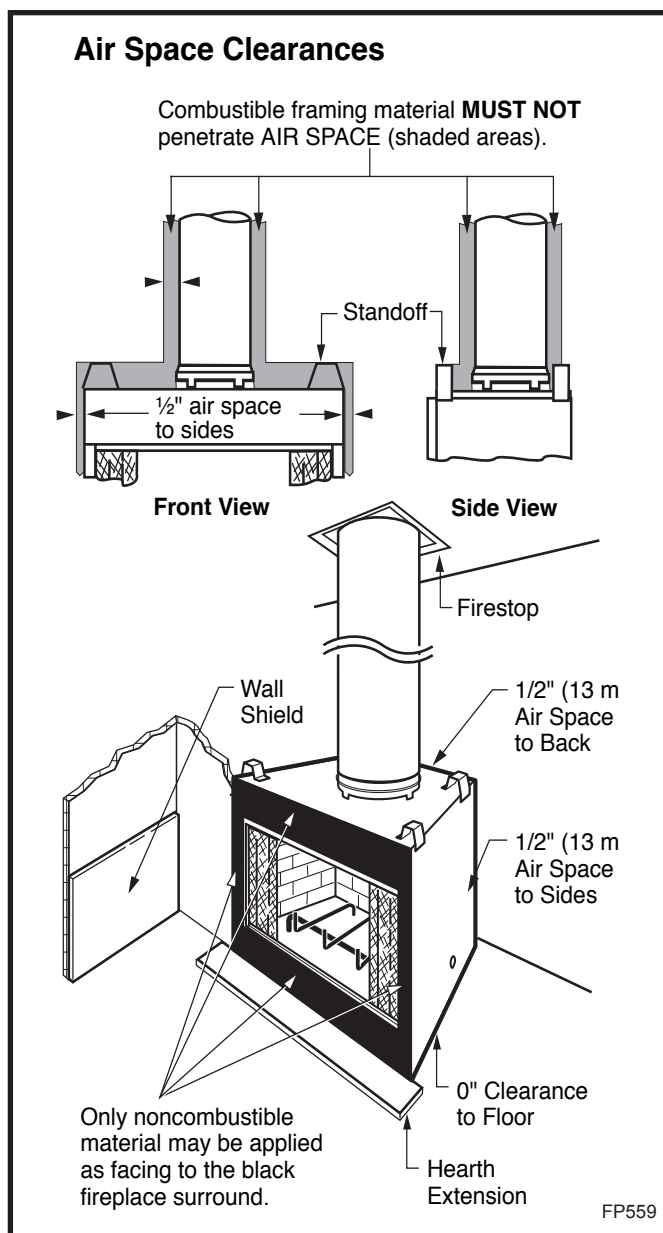
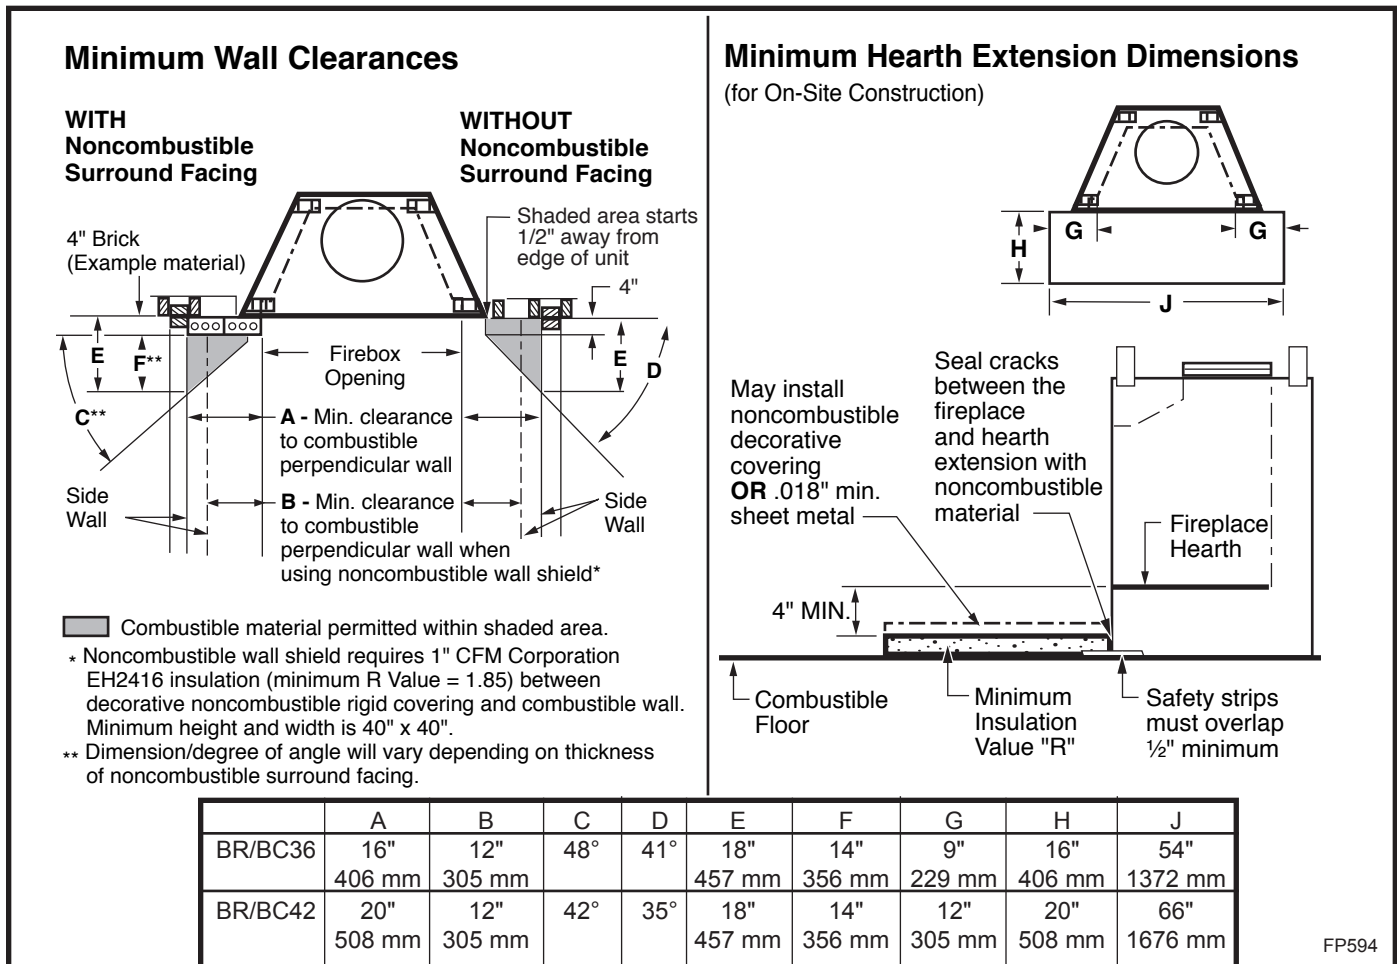

Fig. 20 Minimum clearances to combustibles.
Fig. 23 Combustible side wall protection and hearth extension dimensions.
CAUTION: All joints between the finished wall and the fireplace surround (top/sides) must be sealed with noncombustible material to prevent cold air leakage into the room. Only noncombustible material may be applied to the facing of the fireplace surround. (Black painted area) (Fig. 20)
Often a decorative surround or vertical portion of the mantel is desired. If this is constructed of any combustible material it must be within the safe zone indicated in Figure 23.
Adjacent combustible side walls that are within minimum dimensions shown in Figure 23 of the fireplace opening must be protected with MHSC Wall Shield Model SP40 or a specifically built wall shield described in Figure 20.
The special wall shield design described in Figure 20 is an alternate method of adding protection to side walls and can be used in place of the SP40 with the same wall clearances specified for the SP40. Rt must =1.85 minimum.
A hearth extension is required to protect a combustible floor in front of the fireplace. Refer to Figure 23 for minimum dimensions and mounting detail.
The hearth extension described in Figure 23 must be a durable noncombustible material with a minimum (total) Rt value of 1.09; see Figure 24 for examples. The overall height (above a combustible floor), depth and width must be as indicated, with the extension centered to the fireplace opening.
The top of insulation must be covered with a noncombustible decorative covering **or** a piece of .018" minimum sheet metal, to protect hearth extension material. (Fig. 23)
Secure the hearth extension to the floor to prevent shifting, using trim molding or other similar means at three (3) outer edges. Seal crack between the fireplace hearth and hearth extension with a noncombustible material. (Figs. 23 and 25)
WARNING: HEARTH EXTENSION MUST BE INSTALLED IN ACCORDANCE WITH FIGURE 23 AND MUST NOT COVER THE BOTTOM FRONT OPENING OF THE CIRCULATING MODEL.